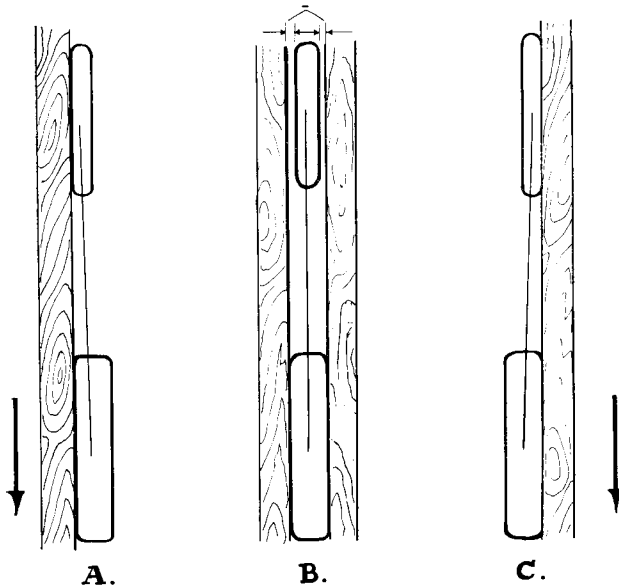

FIG. F.17. *Checking alignment.*
If the front tyre is of smaller section than it should be as drawing (B) Fig. F.17.